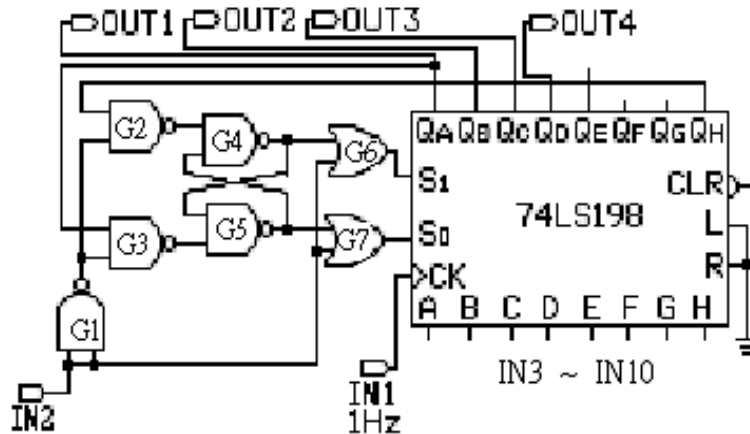

Figure 10-2
1. Thunderbolt light circuit, as figure 10-2